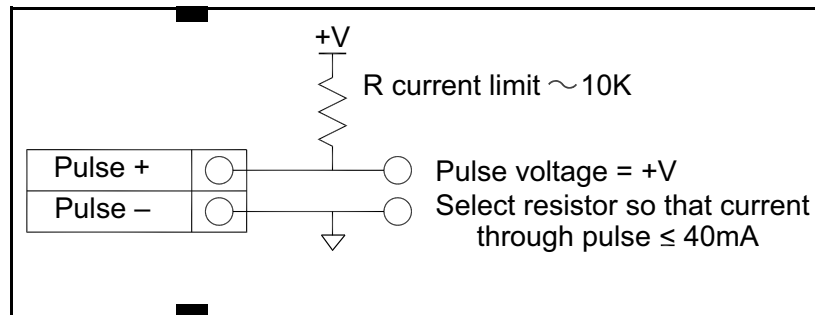

Figure 42: Isolated Pulse Output with External Power Supply
- For AC or DC powered meters, use a separate 5 to 36 VDC power supply (see *Figure 42 on page 44*). Use this option if a specific voltage is needed for the pulse output.